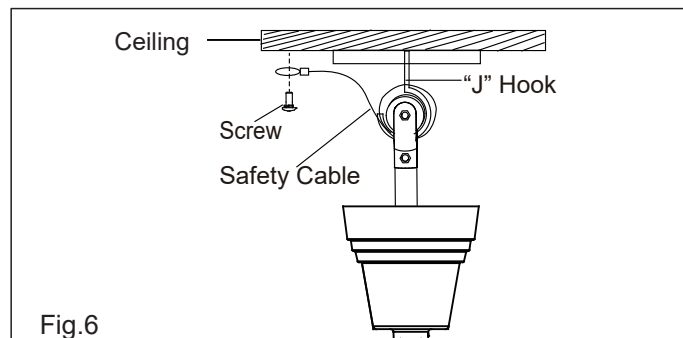

Fig.6
6) "U" Hook mounted, Lift the fan onto the mounted hook, until the hanging wheel seat on the mounted J hook. (Fig.6)